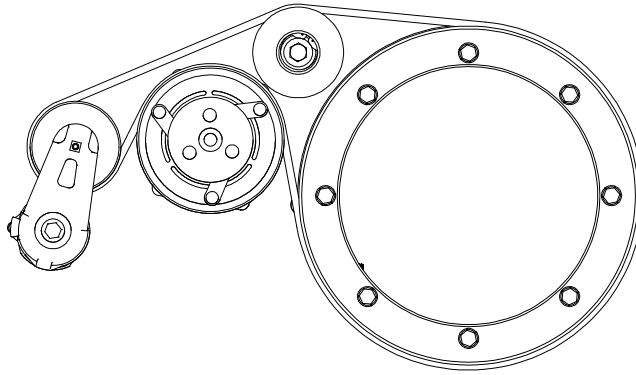

Figure 4.3
- Remove the idler pulley from the automatic tensioner. Route the drive belt as per figure 4.3 belt routing. Put belt around idler from tensioner and rotate tensioner arm clockwise until pulley (with belt around it) can be slid onto hub of tensioner. When pulley is on the hub the tensioner can be released. Reinstall bolt securing idler pulley to tensioner. Torque to specifications.